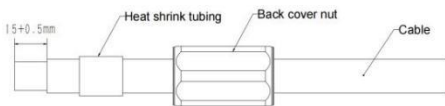

Figure 6-7-3 Peel off the insulation layer of the cable
- 3) Peel off the insulation layer of the cable by 15.5+0.5mm, as shown in Figure 6-7-3.